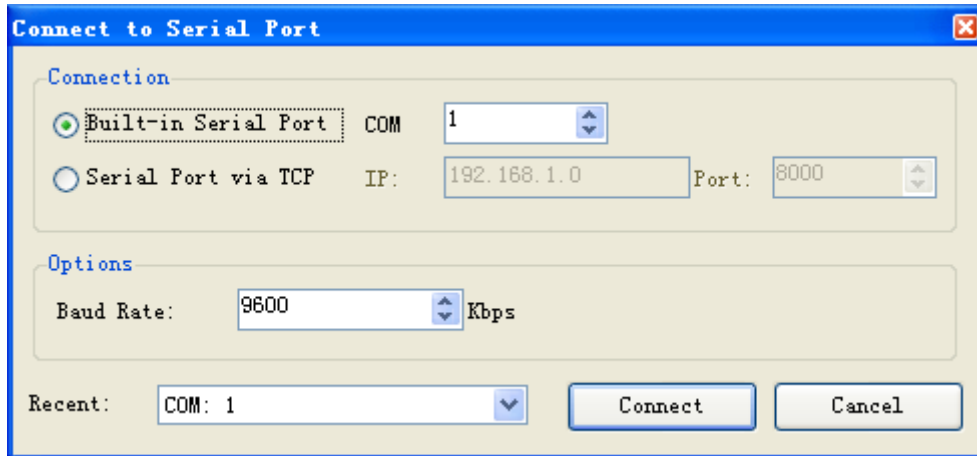

Figure 8-26 Set Connection Parameters
3. Connect the serial port and select Serial Port/Connect in the menu bar to display the window shown in the Figure 8-26; fill in the parameters according to the actual conditions and click Connect;